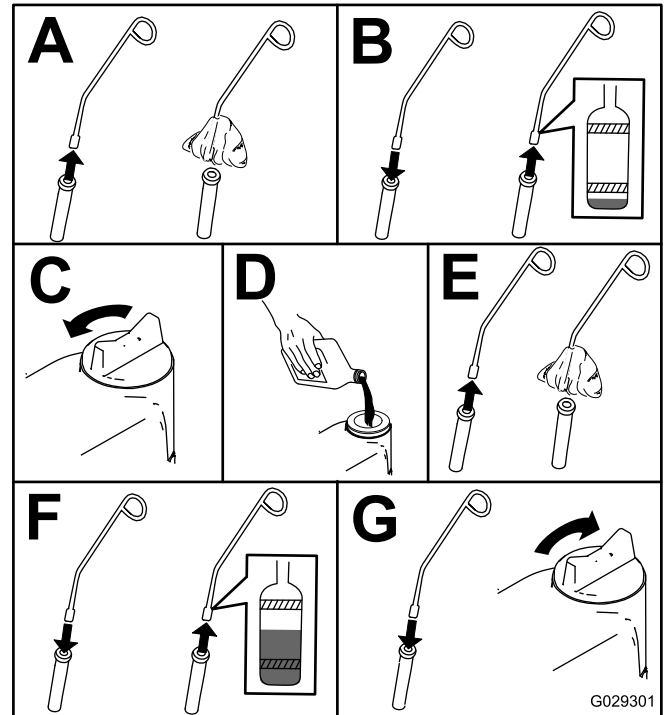

Figure 44
5. Check the oil and add additional oil as needed (Figure 44).